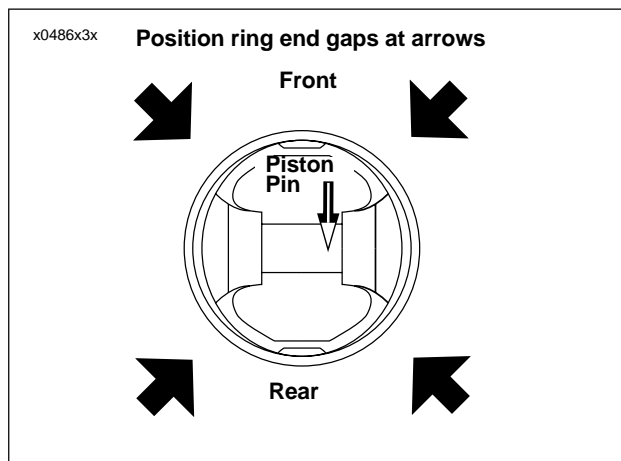

Figure 3-87. Ring End Gap Position
- See Figure 3-87. Make sure the piston ring end gaps are properly positioned as shown.